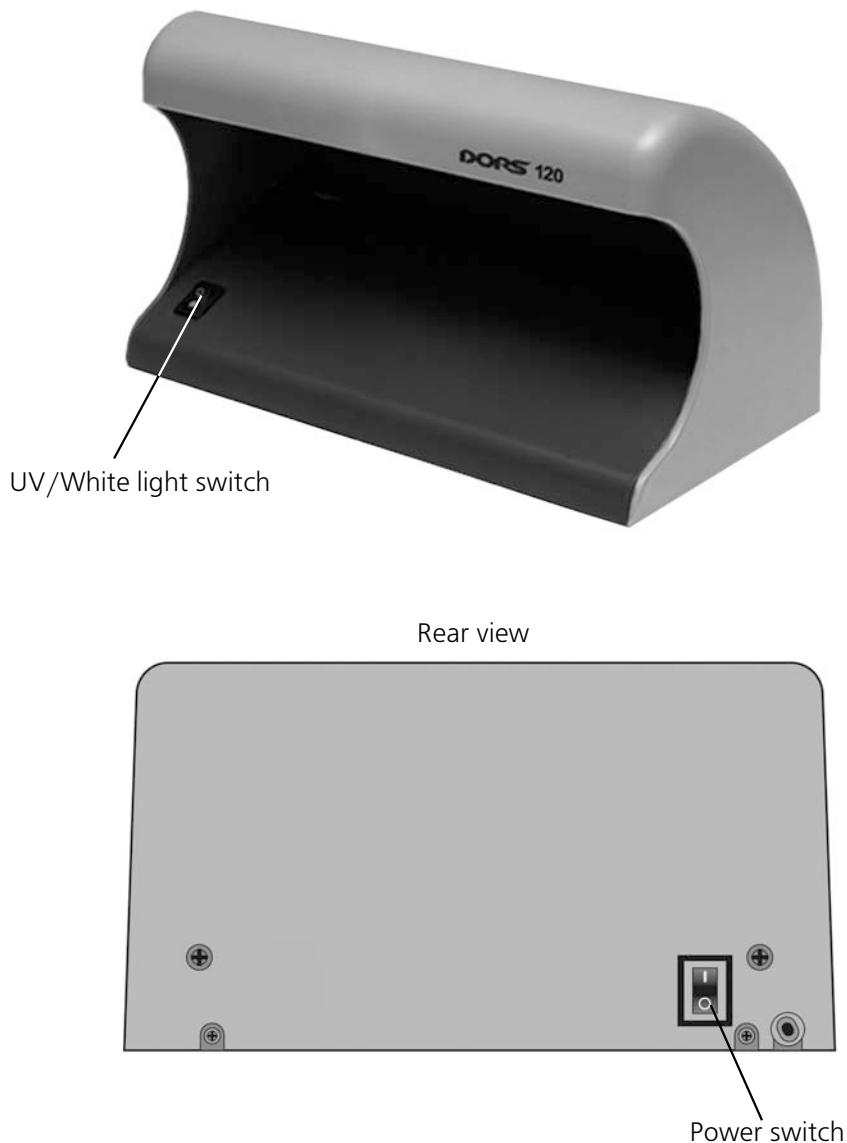

Fig. 1
1. Connect the device to the wall outlet (110/220 V, 60/50 Hz) and switch it on with the "POWER" switch on the rear panel of the unit (Fig. 1).